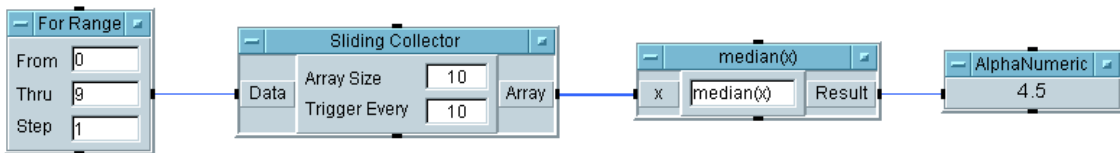

Figure 2-16. Connecting Data Objects
5. Add an AlphaNumeric object, by selecting Display ⇒ AlphaNumeric. Connect the objects as shown in Figure 2-16. Run the program. If you have not changed any of the inputs on the objects, you should see the result displayed in Figure 2-16.